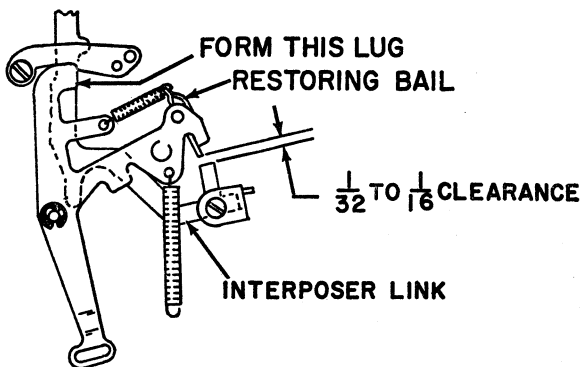

Figure 3. Bail Latch Adjustment
4. BAIL LATCH. Form the ear on the left bail arm forward or back to obtain $\frac{1}{32}$ " to $\frac{1}{16}$ " clearance between the bail and an interposer link when the link is raised and the bail is latched up (Figure 3).